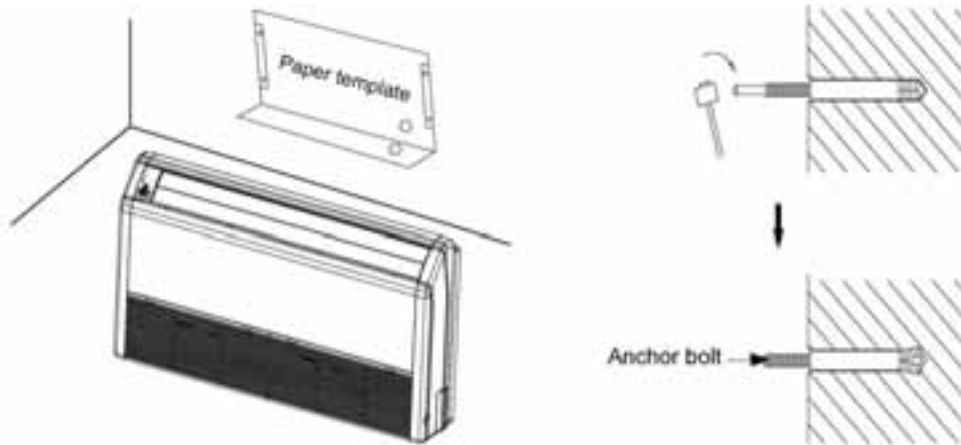

Fig.4.1.2.1
- (1) Determine the location of the hanger with the paper template, and then remove the paper template, as shown in Fig. 4.1.2.1.left
- (2) Insert the anchor bolts into the drilled holes, and drive the pins completely into the anchor bolts with a hammer, as shown in Fig. 4.1.2.1 .
- (3) Remove the right and left side panels. ,as shown in Fig 4.1.2.2.